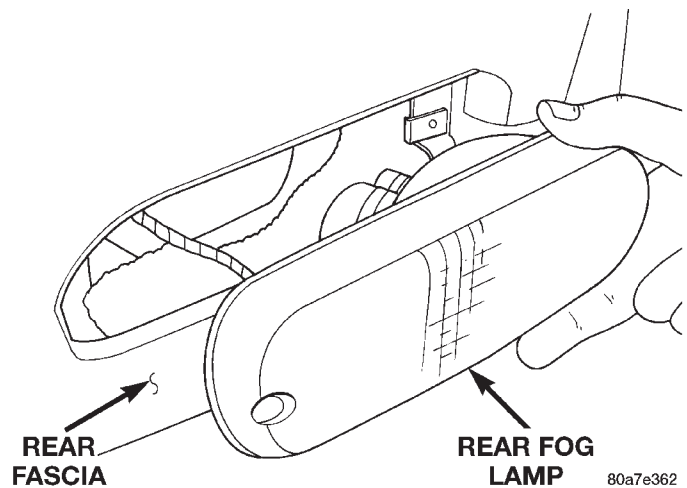

Fig. 7 Rear Fog Lamp
- (1) Remove screws holding rear fog lamp to rear bumper fascia.
- (2) Separate rear fog lamp from fascia (Fig. 7).
- (3) Rotate rear fog lamp socket counterclockwise one quarter turn.
- (4) Pull socket from back of lamp.
- (5) Separate rear fog lamp from vehicle.